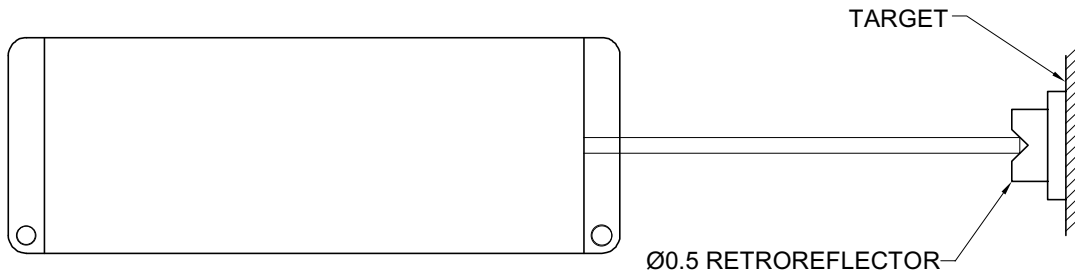

FIG. 11-2 SINGLE-APERTURE LASER
- A. You may use a single-aperture laser head and a $\text{Ø}1/2$ " retroreflector tightly secured to the target as shown in Fig. 11-2.